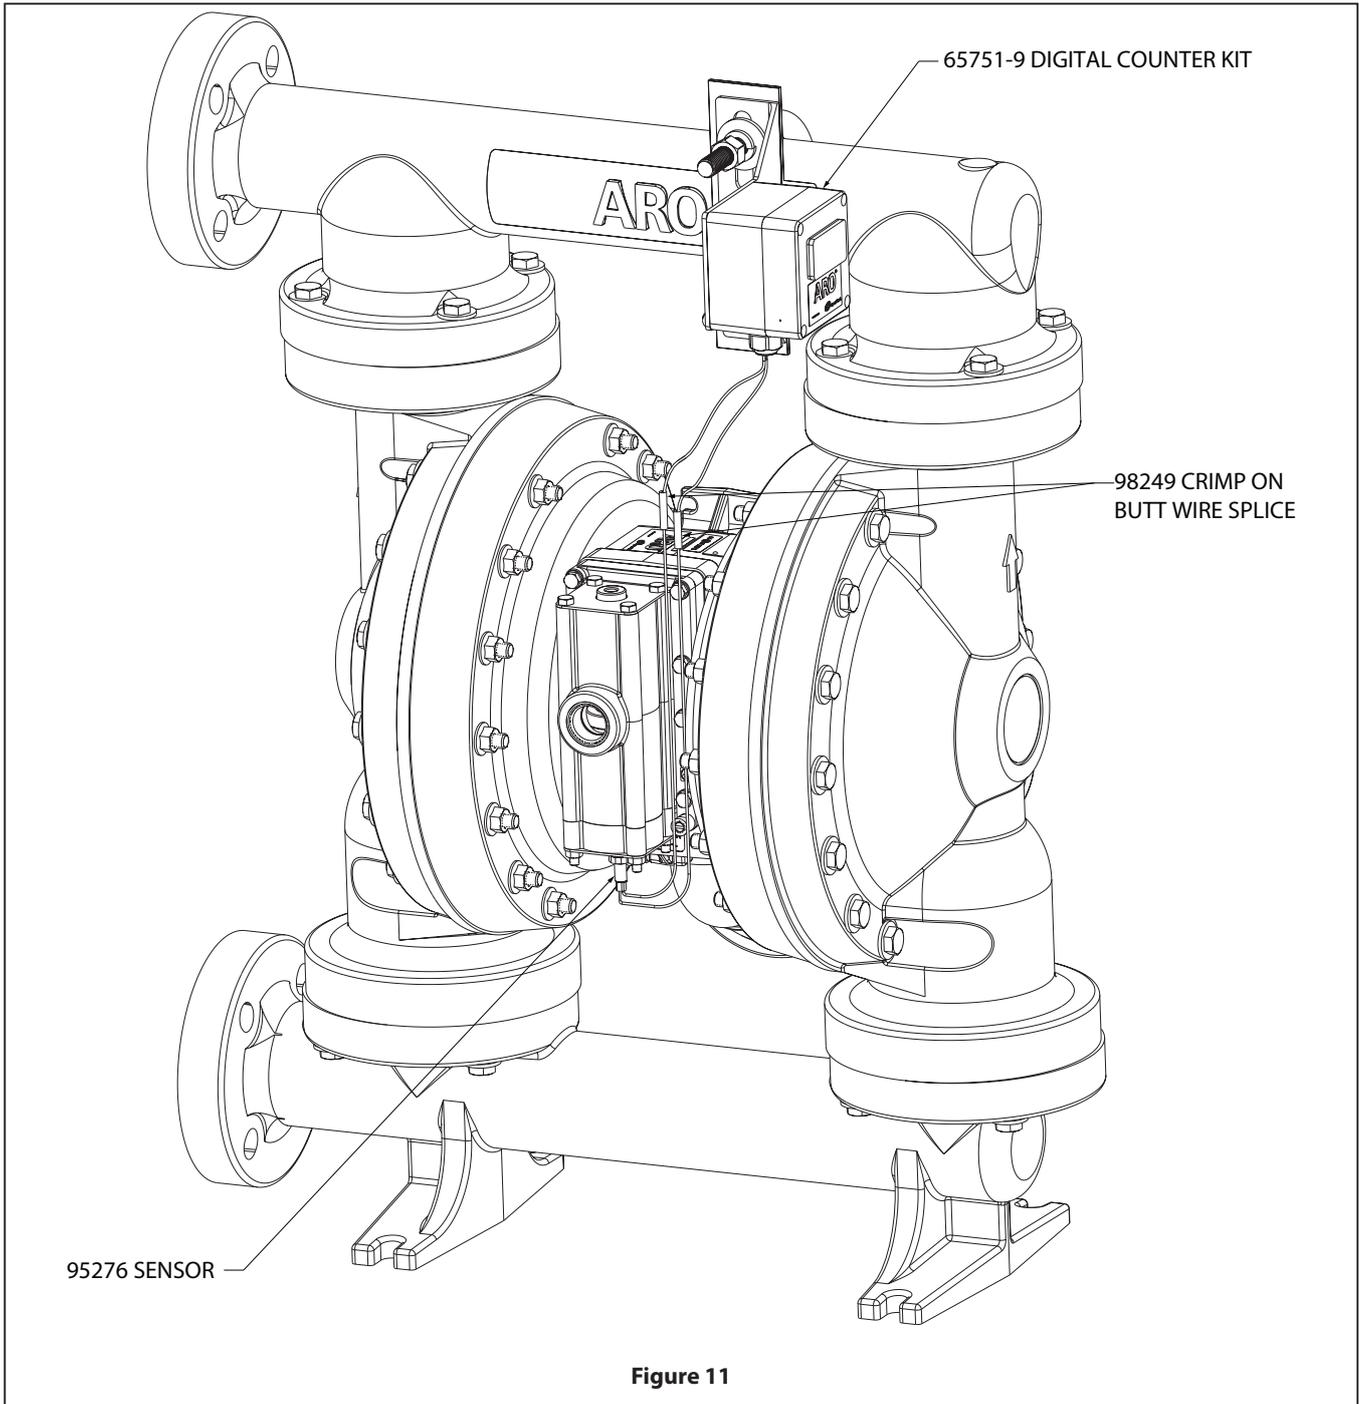

Figure 11
5. Refer to figure 10 and figure 11 to install Digital Counter onto pump. Install U-bolt (98247-X) onto pump manifold in preferred location and orientation. Tighten U-Bolt and mounting bracket using hardware washers (Y13-6-T or Y13-8-T), lock washers (Y14-616-S or Y14-816-S) and nuts (part of U Bolt 98247-X).
6. Refer to figure 11 and 12. Install Crimp On Butt Wire Splice (98249) by inserting Sensor (95276) wire (Black) in one end of Crimp On Butt Wire Splice (98249) and insert Digital Counter (98244) wire (White) in other end of Crimp On Butt Wire Splice (98249). Using proper crimping tool continue to crimp both ends of Crimp On Butt Wire Splice (98249). Repeat this process for other two wires (both Black). Pull slightly on all wires to assure the crimp holds. This completes the Digital Counter installation onto the pump. As soon as the pump starts to cycle you will see the cycle counts start. If you want to reset to zero press front counter panel button or you can use the blue wire inside the counter enclosure with an external source. You will also need to set dip switch on counter to (key dis) (see figure 6).